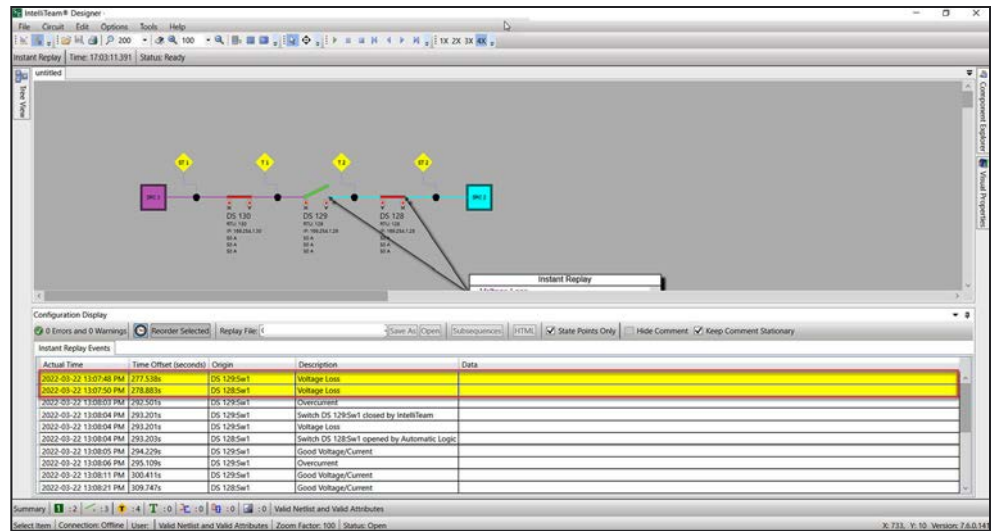

Figure 124. Timestamps selected for manual time adjustment.
- Enter **Reorder Events** mode by clicking on the **Clock** button on the Instant Replay bar below the circuit one-line diagram. The **Reorder Selected** button will open next to the **Clock** button. See Figure 124 on page 119.